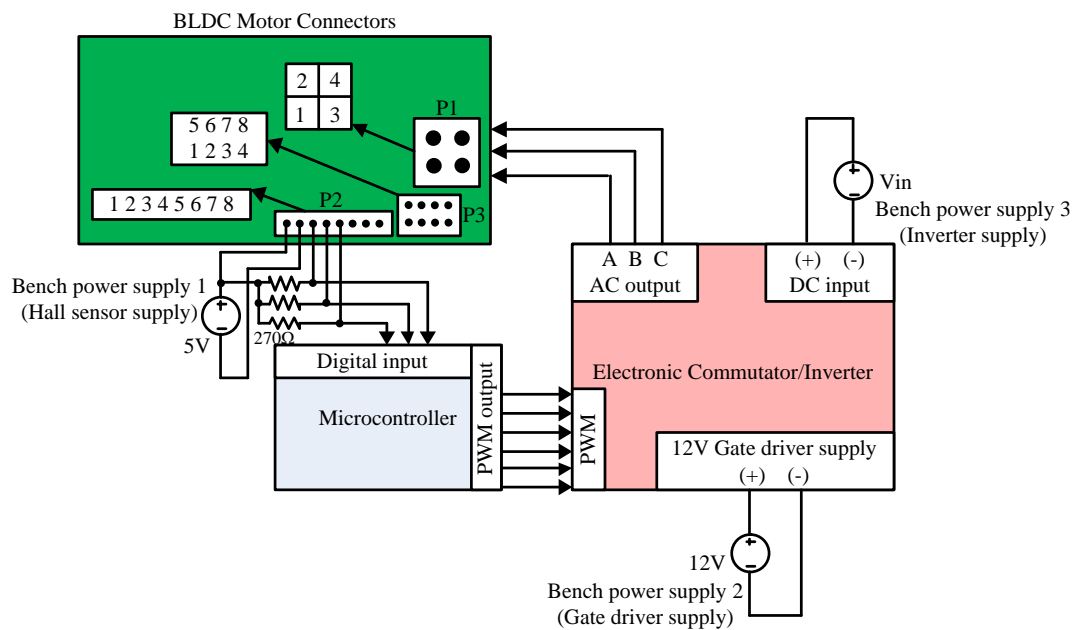

Figure 4. System connections for BLDC motor drive.
- Construct a system to drive the BLDC motor as shown in Fig. 4. Set V_{in} of bench power supply 3 to zero with current limit of 0.8A. Turn on the power supply and increase the voltage slowly. *Note: Do not increase the voltage beyond 24V.*